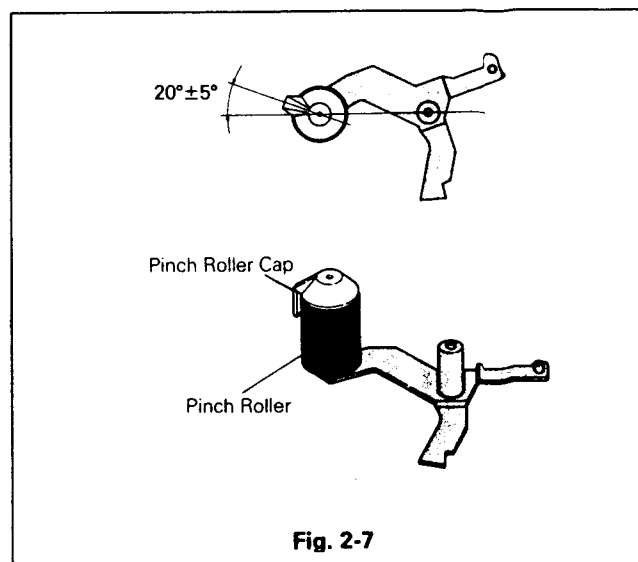

Fig. 2-7
- Pull the Pinch Roller Cap upward to remove. (Refer to Fig. 2-7).
- Insert the new Pinch Roller. (Refer to Fig. 2-7).
- Replace the Pinch Roller Cap. Make sure that the direction of the Cap is within the range shown in Fig. 2-7.